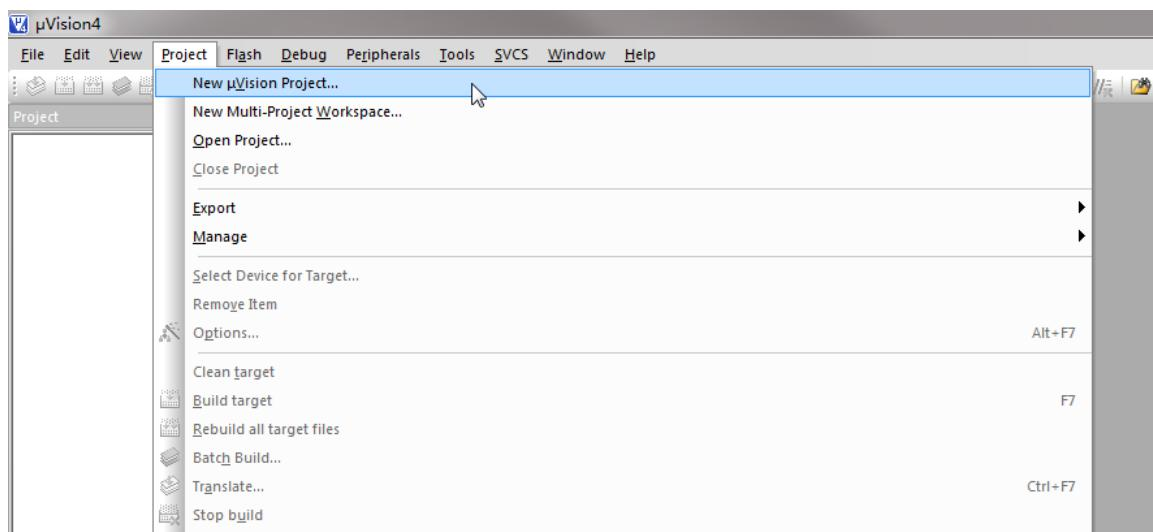

Figure 1-2. Project Drop-Down Menu
- Step 2: Select "Project" in the menu bar, and then select "New μVision Project ..." in the Project drop-down menu, and the new Project window will pop up, as shown in Figures 1-2 and 1-3 below.